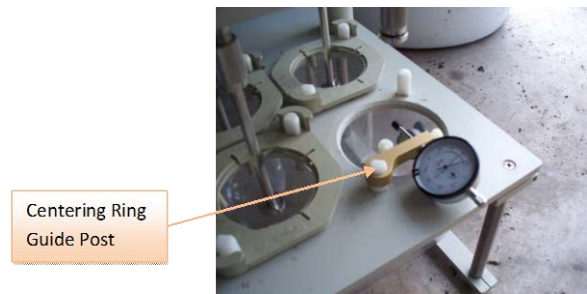

Figure 13
4.5.2.2 Place the indicator assembly onto the centering ring guide post as shown in Figure 13.
4.6.2.2 Place the indicator assembly onto the centering ring guide post as shown in Figure 13.
4.7.2.2 Place the indicator assembly onto the centering ring guide post as shown in Figure 13.